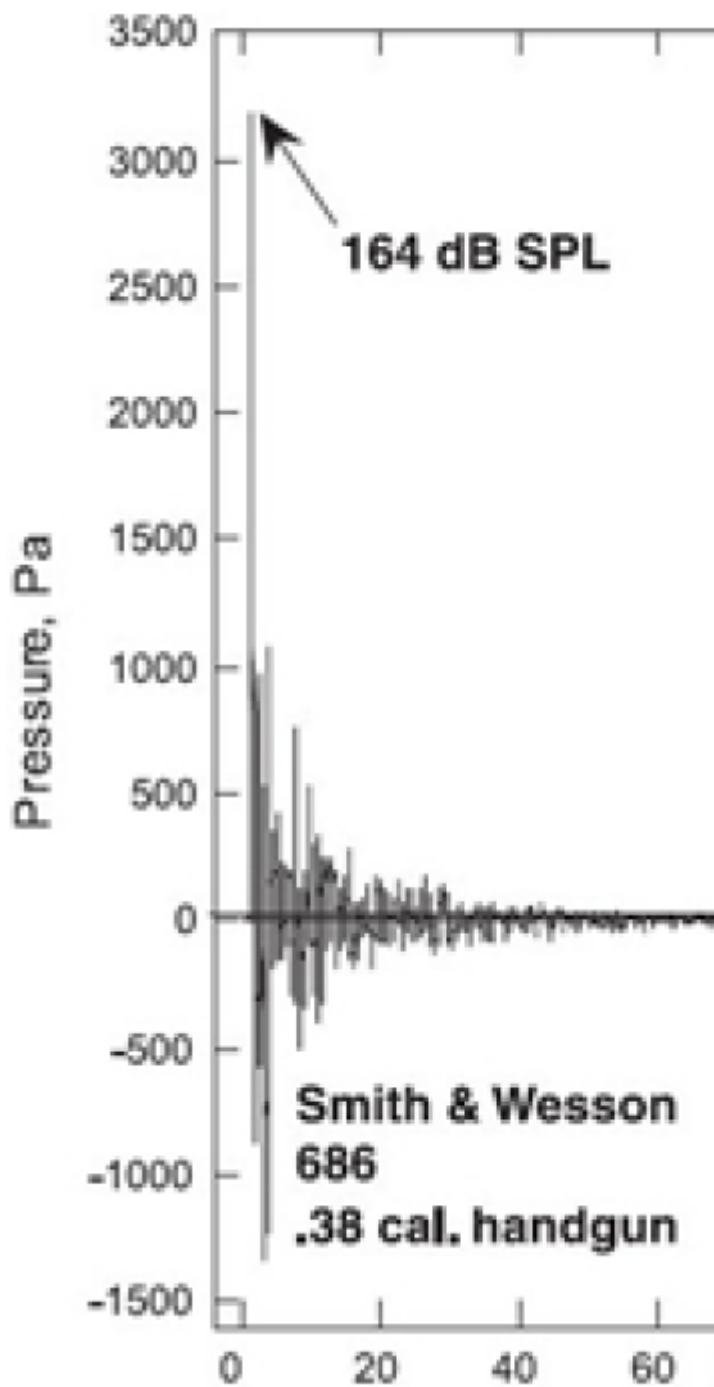

Figure 1. Example of impulse waveform from handgun. Flamme, et al 2009.
*Impulse* noises are generally defined as sounds with short duration (less than 1 second) such as gunfire, explosions or the "pop" of a pneumatic nail gun. These sounds typically have an extremely fast onset and often reach very high sound pressure levels (SPL). In figure 1, for example, the sound of gunfire reaches a peak SPL of 164 decibels (dB) in the first few tenths of a millisecond then decays rapidly.